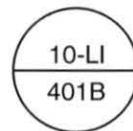

Figure 79. Instrument Tag
5. Identify the loop and area the device is in using the instrument tag in figure 79.